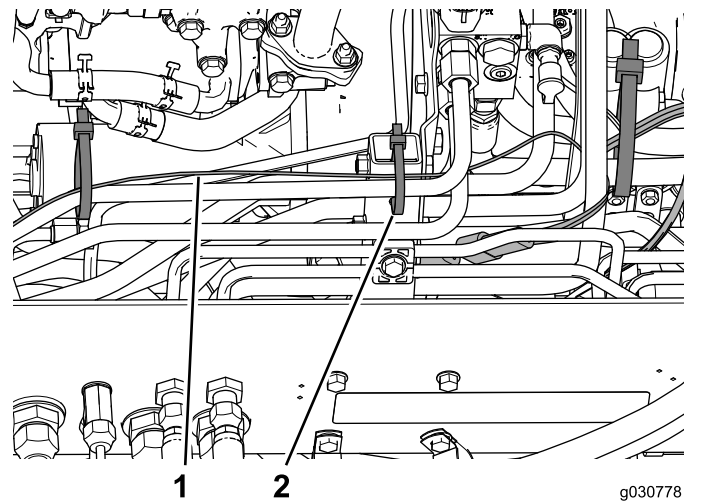
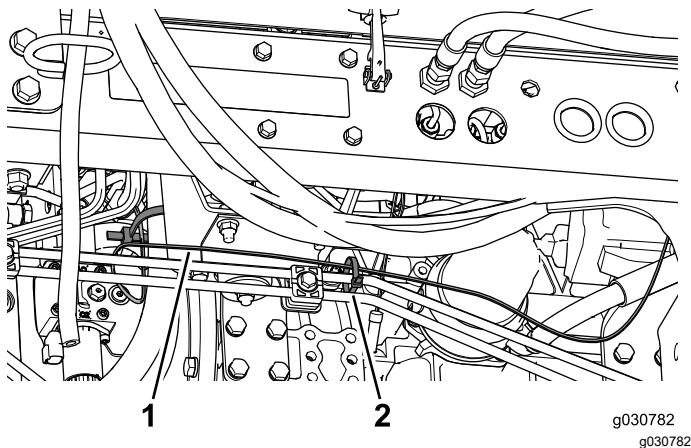

Figure 53
Figure 54
5. Use cable ties to secure the wire harness to the hydraulic hoses and hard lines at the locations shown in Figure 53 and Figure 54.